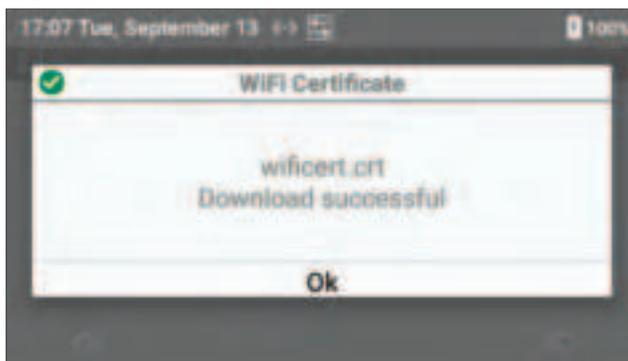

Figure 115: Download Successful
- 8 The instrument will display a message indicating that the Wi-Fi Certificate download was successful (Figure 115). Select **Ok**.